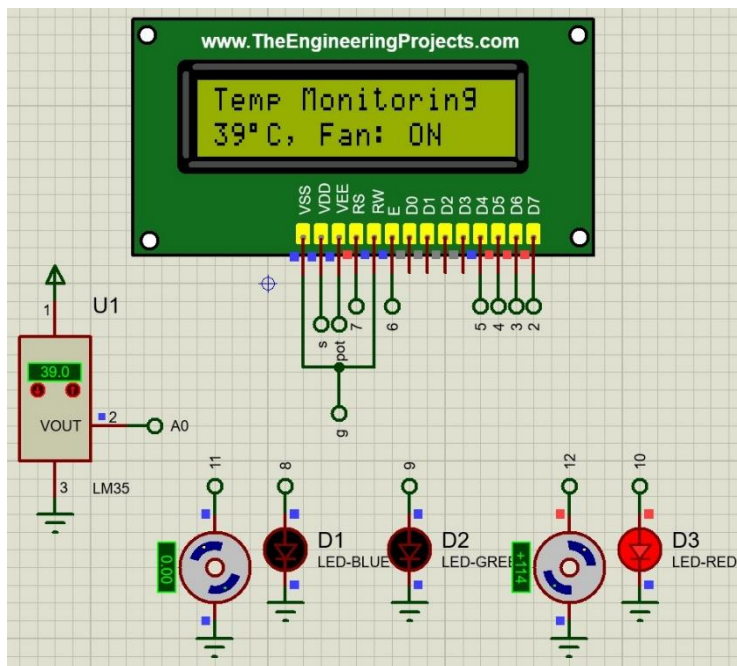

Figure 2 – Hot Temperature
- In Figure 2, it is shown that the lcd display is at hot temperature reading and displays that the fan motor is turned on. Hot temperature reading range is 36 degrees Celsius and above. Also, the red LED is on indicating that the temperature is HOT.